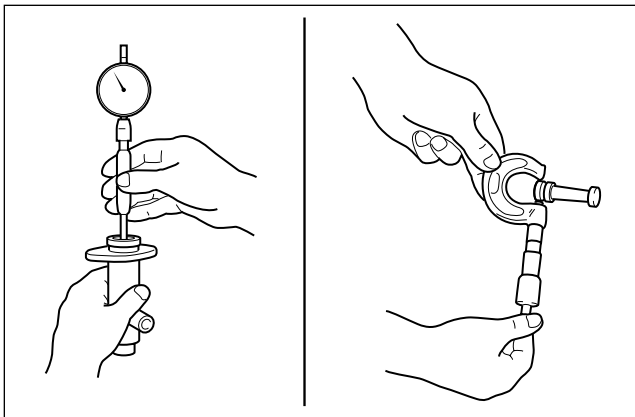

Figure 28. Measuring Clearance at Slave Cylinder and Piston
Measure (Figure 28)
- The clearance inside the slave cylinder body with a dial indicator. Use a micrometer to check the thickness of the piston. Replace the slave cylinder body or piston if the clearance is less than 0.11 mm (0.0043 in) (figure 28).